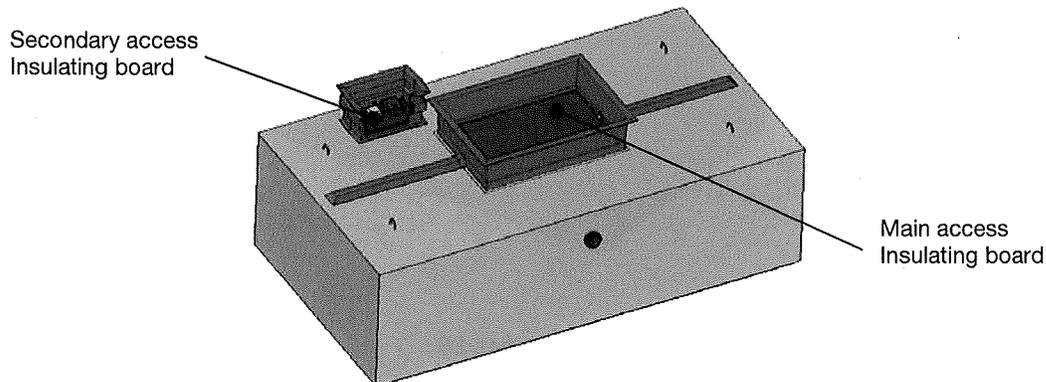

Figure 24
2.10 Set down the 2 insulating boards inside their respective access. The owner's documentation, the junction box and the alarm panel go in the secondary access as shown on figure 24.